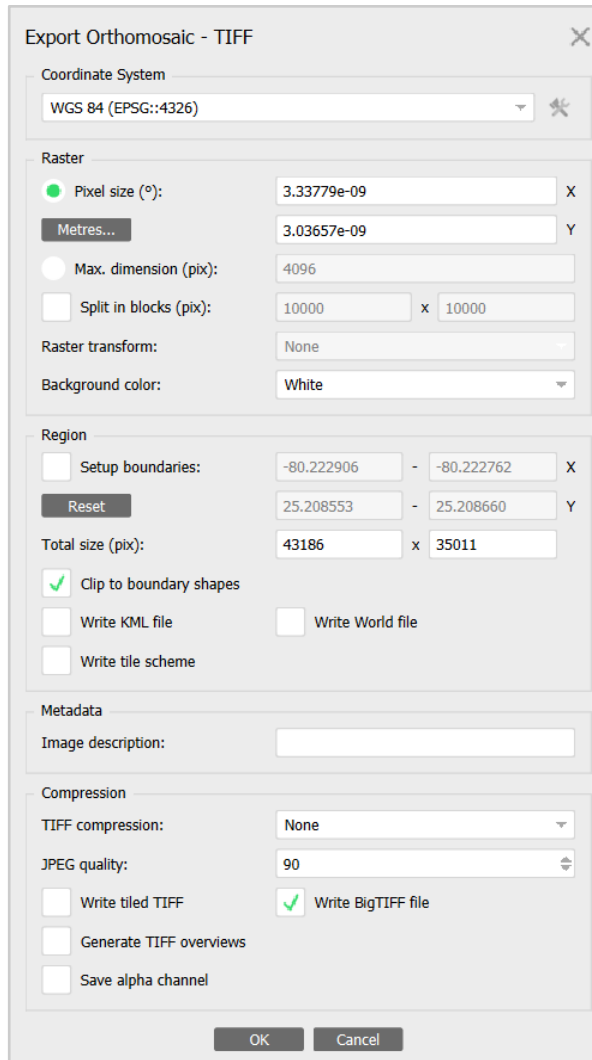

Figure 39. Export Orthomosaic - TIFF window with settings as described in step 9.
9. A new window called **Export Othomosaic - TIFF** will appear. Accept defaults for **pixel size** and **total size (pix)**, and change settings according to Figure 39. Click **OK**.